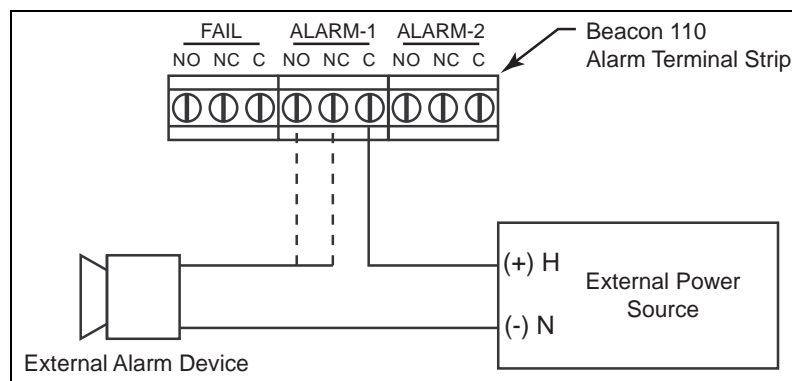

Figure 9: Typical Alarm Device Wiring
6. Connect the leads from the external alarm to the appropriate terminals on the alarm terminal strip as shown in Figure 9 to obtain the desired operation.